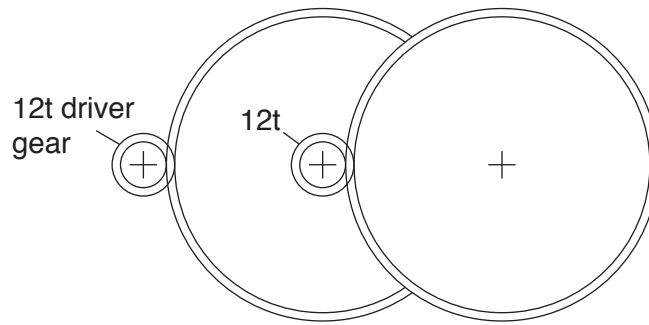

Fig. 9
- (iv) Fig. 9 shows a compound gear train that will give the same velocity ratio as the simple gear arrangement in Fig. 8.